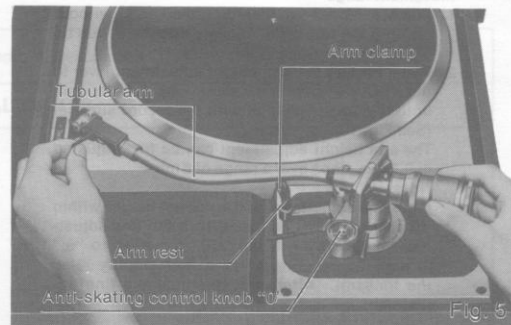

Fig. 5
1. Remove the arm clamp, and move the tonearm away from the arm rest so that it is freely suspended (Fig. 5).